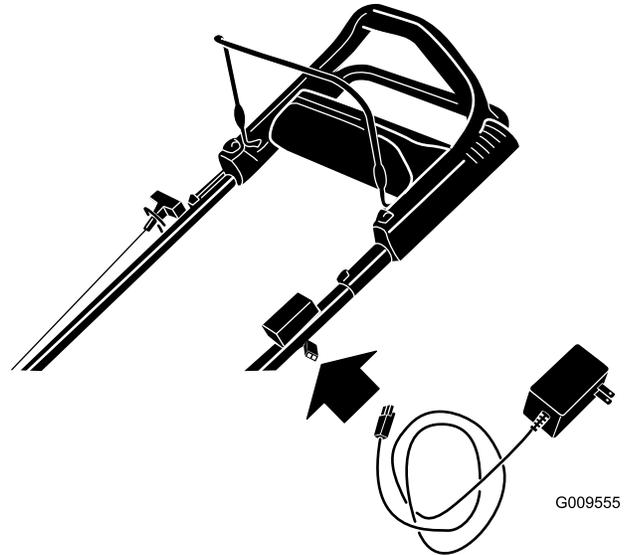

Figure 37
1. Connect the charger to the wiring harness located below the electric-start button (Figure 37).
**Note:** Your machine comes with a spare fuse attached to the battery-charger box (Figure 37).